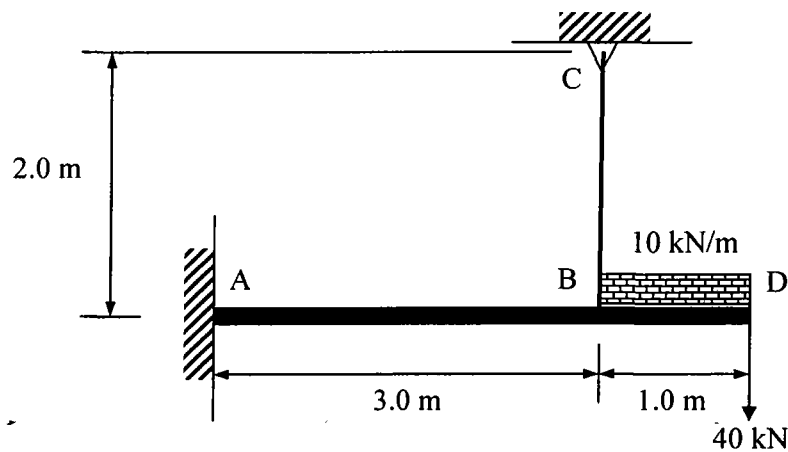

Figure 3 / Rajah 3
2. (b) The beam shown in Figure 3 is fixed at A and additionally supported at B using tie rod BC. Determine the force in member BC using **method of least work** and calculate all reaction forces at A. The cross sectional area for tie rod is  $150\text{mm}^2$  and point C is pinned. Given  $I = 140 \times 10^6\text{mm}^4$  for the beam and  $E = 200\text{GPa}$ . Neglect axial compression and shear in the beam.